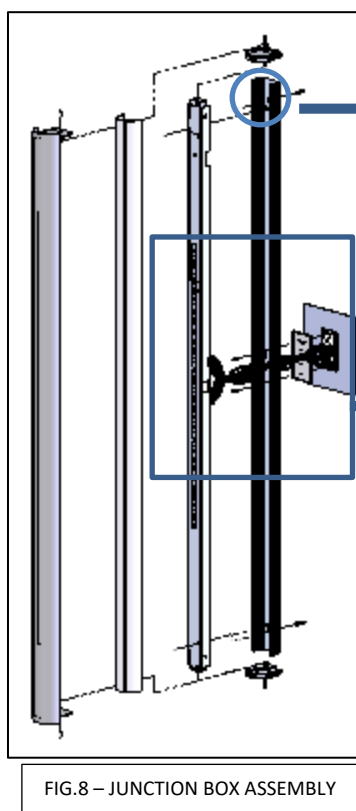

FIG.8 – JUNCTION BOX ASSEMBLY
5. Pull the BUILDING SUPPLY WIRES through the BACK HOUSING ASSEMBLY and mount the BACK HOUSING ASSEMBLY to the JUNCTION BOX. Mark the placement for the provided wall ANCHORS through the holes near the top and bottom of the BACK HOUSING as shown in FIG.8,9 &10.